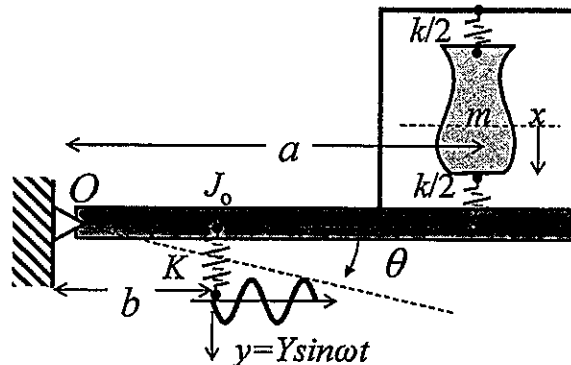

Figure 8
- (b) Figure 8 shows the box of vase (as described in Question 4(a)) now being placed on a leverage plate with spring support. This plate of a moment of inertia J_o is pivoted at point O and supported by a spring of stiffness K at a distance b from the pivot O . The box of vase is located at a distance a from the pivot O .